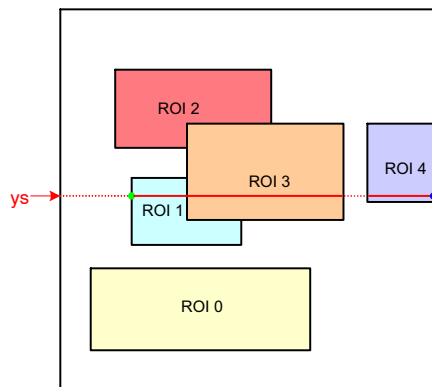

Figure 28. Scanning the Image Array with Five Windows
Figure 28 illustrates a practical example of a configuration with five windows. The current position of the read pointer (ys) is indicated by a red line crossing the image array. For this position of the read pointer, three windows need to be read out. The initial start position for the x -kernel pointer is the x -start configuration of ROI1. Kernels are scanned up to the ROI3 x -end position. From there, the x -pointer jumps to the next window, which is ROI4 in this illustration. When reaching ROI4's x -end position, the read pointer is incremented to the next line and xs is reinitialized to the starting position of ROI1.
- The read pointer is not necessarily incremented by one, but depending on the configuration, it can jump in y -direction. In Figure 28, this is the case when reaching the end of ROI0 where the read pointer jumps to the y -start position of ROI1.